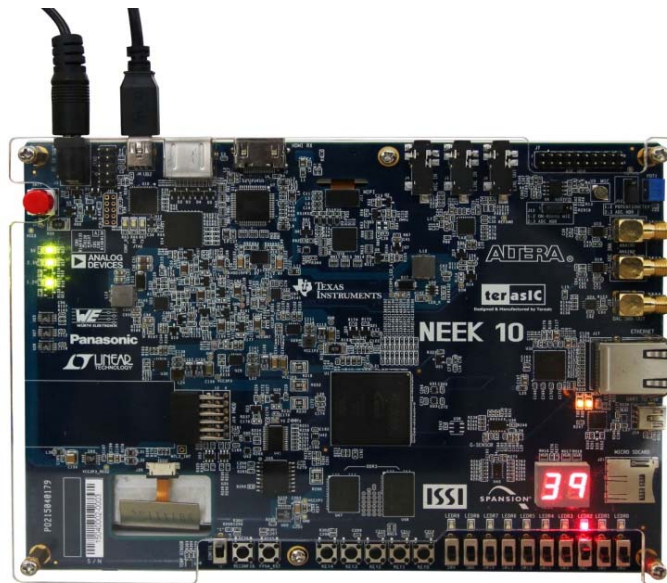

Figure 5-3 Display power (mW) on the 7-segments and LED
- The two 7-segments on the NEEK10 board will display mW of the bus chosen in decimal, as **Figure 5-3**.